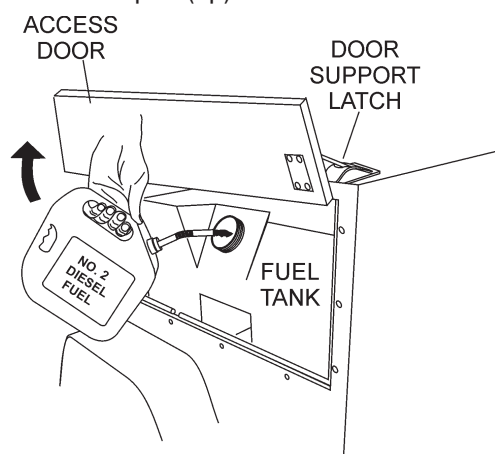

Figure 7. Adding Fuel
2. Lift the light tower access door (Figure 7) opposite the control panel. Set the door support latch in place to keep the door open (up).